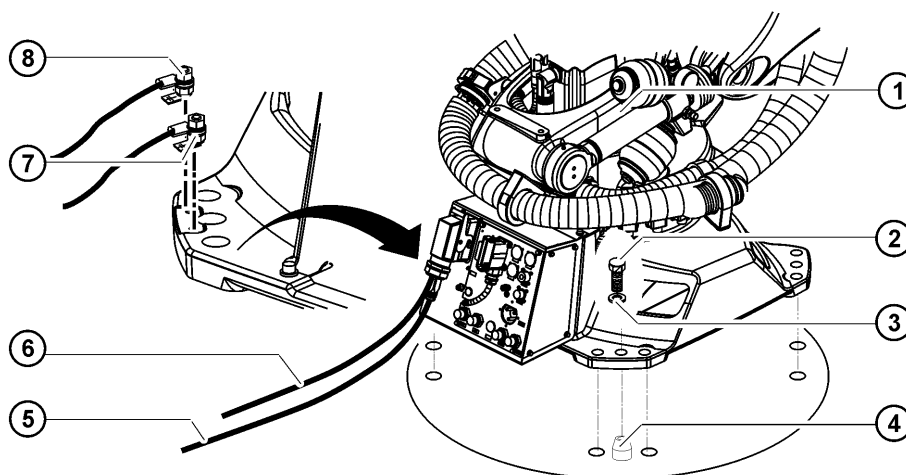

Fig. 8-3: Installing the robot
1. Check that both pins (>>> Fig. 8-3) (4) are undamaged and fitted securely.